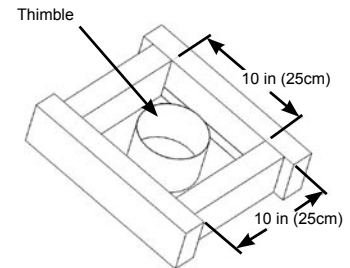
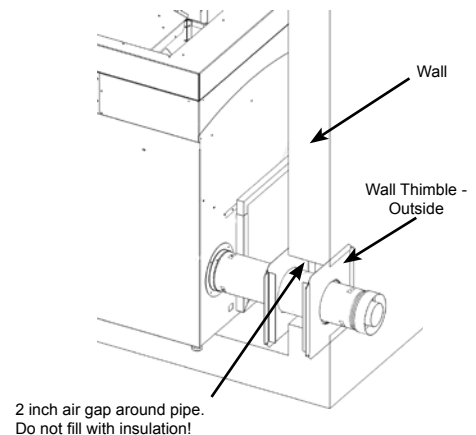

FIGURE 12
FIGURE 16
5. Drop a plumb bob from the ceiling to the center of the Elbow connected to the UBB and mark center point on the ceiling, cut and frame a 10 in. x 10 in. (25cm x 25cm) square hole in the ceiling for the Ceiling Support Firestop. See Figure 12.
3. Cut and frame a 10 in. X 10 in. (25cm x 25cm) square opening in the wall (the hole in the wallboard may need to be larger). See Figure 12 (page 16). The telescoping Wall Thimble is to be installed in the interior and exterior portion of the wall. (Wall Thimble adjusts from 4 ¼ in. to 7 in. (11cm to 18cm) to accommodate most wall thicknesses). See Figure 16.
5. Connect the Starter Collar to back of UBB and attach sufficient pipe to the UBB to extend 12 in. - 15 in. (30-38cm) beyond the Flashing. See Figure 16.